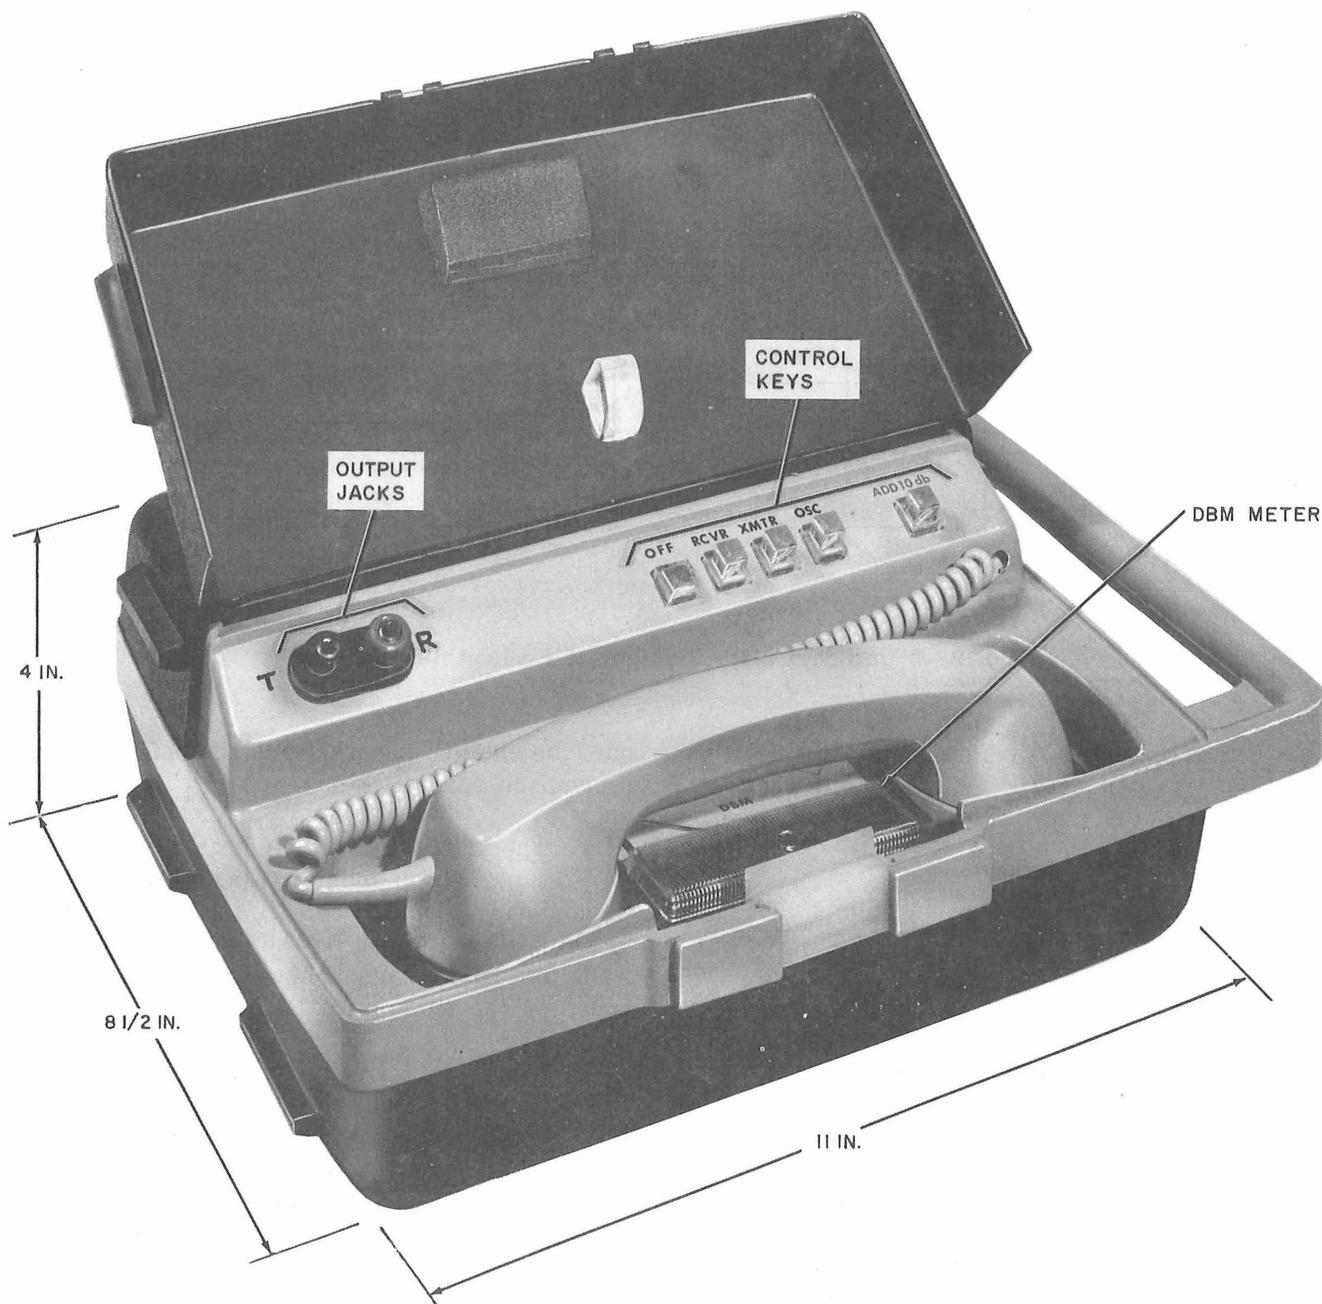

Fig. 1—F-58654 Portable Test Set—Cover Open
**2.01** The F-58654 test set is a portable test set which weighs approximately 7 pounds. Dimensions of the test set are given in Fig. 1. The test set consists of a G-type handset (with the T-1 carbon transmitter replaced by a magnetic transmitter) and shaping networks for the transmitter and receiver. A dBm meter is located on the front panel of the test set (center mounted in the handset cradle). The test set circuitry is located on two printed circuit boards contained in the two-tone gray plastic case. Eight standard flashlight D-cells supply 12 Vdc to the amplifier and oscillator circuits. When access to the battery is required, a probe is inserted and pressed into the lock release hole, permitting the battery compartment cover to be lifted.